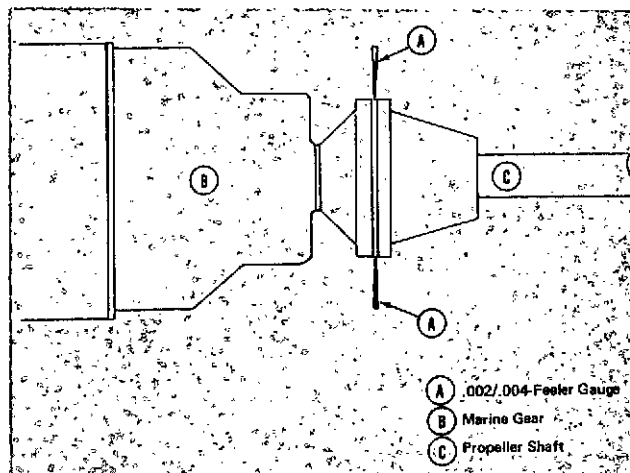

Fig. 16-5-1, V11967. Checking alignment between marine gear and propeller shaft
3. Experience has shown that hulls often change shape after boat is launched; recheck and correct alignment, if necessary, with boat in water. This can be accomplished by removing the bolts in propeller shaft coupling and checking spacing of the two flanges on the circumference. For satisfactory alignment, variation should not exceed 0.004 inch [0.1016 mm]. Fig. 16-5-1.